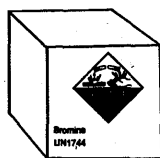

Figure 9-1 Example of Labeled Package
**Labels** at least four inches by four inches in size are applied to the outside of hazardous materials shipping packages. These labels identify the primary and secondary hazard specific to the material being transported and give warning information about handling precautions in case of an emergency. If the diamond label will not fit on the package, shippers will put the label on a tag. For example, compressed gas cylinders that will not hold a label will have tags or decals. Labels look like the example in Figure 9-1. Charts showing all the labels start on page 130.